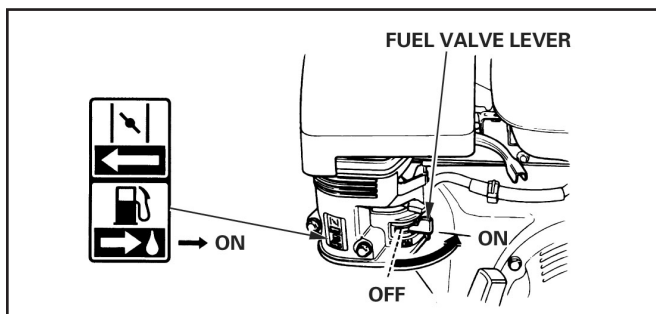

Figure 7. Fuel Lever Honda
6. Move the fuel valve lever to the ON position as shown in Figure 7, see figure 5 for Briggs fuel valve location.